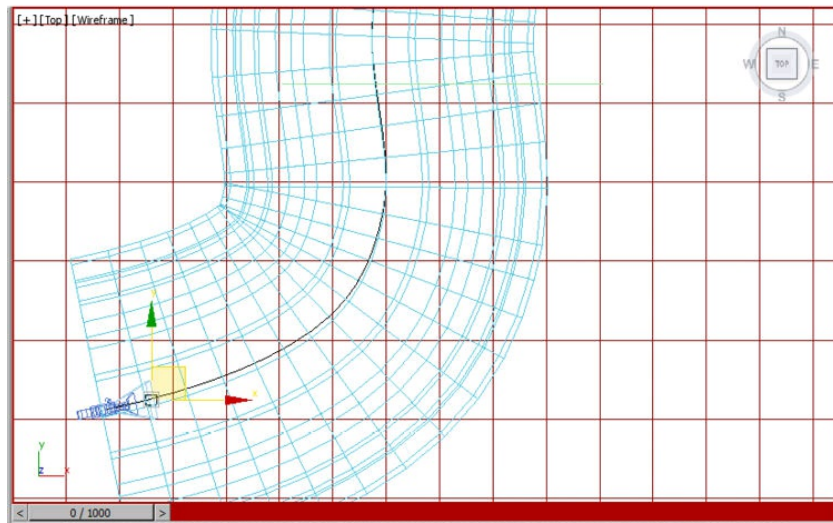

Figure 14-30 The position of the *Camera001.Target* at frame 0
12. In the Top viewport, position *Camera001.Target* using the **Select and Move** tool, as shown in Figure 14-30.